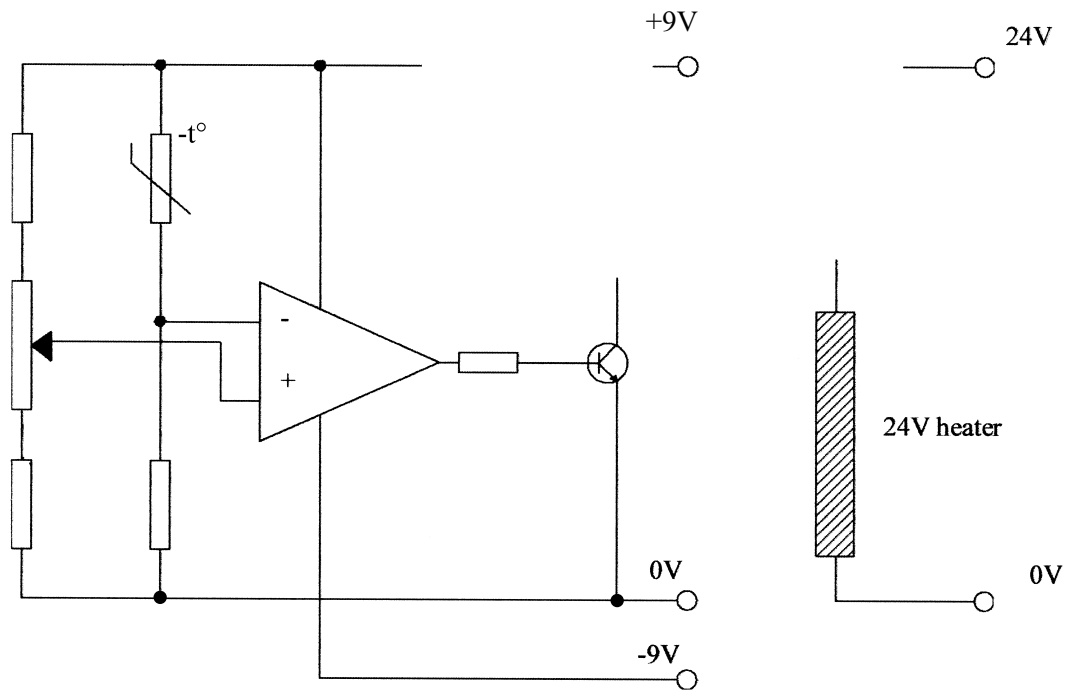

Figure 4
- (d) The circuit in **Figure 4** is used for the thermostatic control of the fish tank heating system. It is partially completed. Complete the diagram by inserting a relay and protection diode in the correct positions.